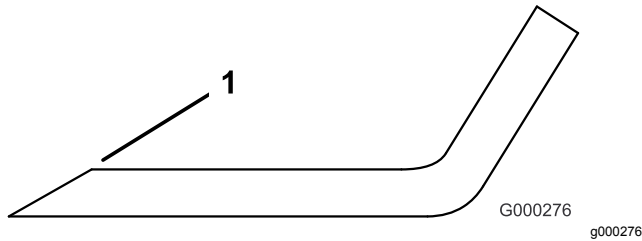

Figure 131
3. Examine the cutting edges of all of the blades and sharpen the cutting edges if they are dull or nicked (Figure 131).
to ensure sharpness (Figure 131). The blade remains balanced if the same amount of metal is removed from both cutting edges.